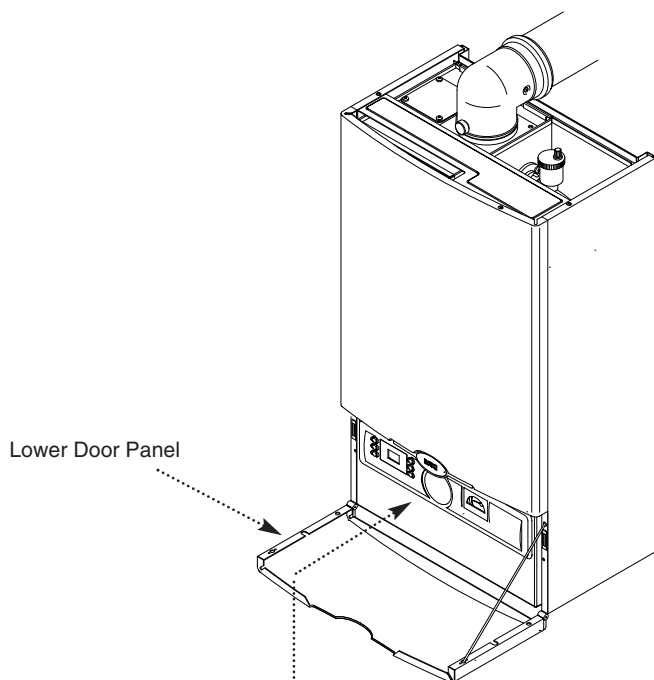

Fig. 1
2. Hinge down the lower door panel (Fig. 1).